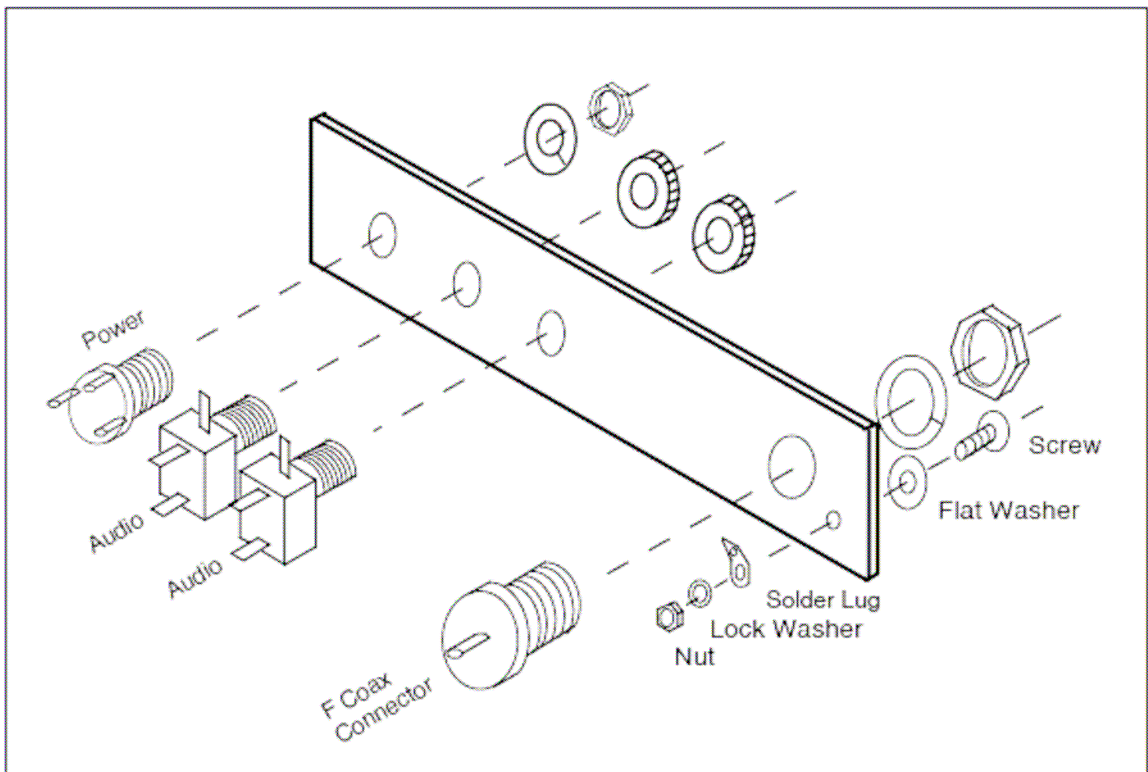
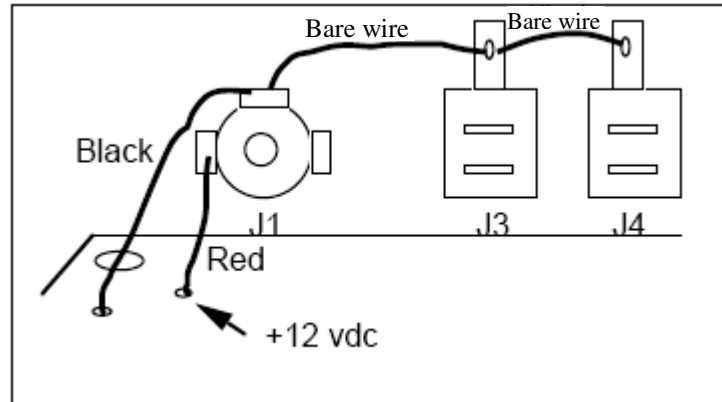

Figure 9. Rear panel assembly
Figure 13. Rear panel power jack (J1) wiring detail
7. q Mount the power connector, two audio jacks, the antenna connector, and a solder lug to the rear panel (Figure 9). All connectors are passed through the panel from the “inside” with washers and nuts located on the decal side of the panel. Tighten the nuts firmly with a crescent wrench or pliers, being careful not to slip and cut the decal.
12. q Be sure that the power connector is installed as shown in Figures 9 and 12). Looking at the connector from the PC board side of the back panel there should be one solder lug at 9 o'clock, one at 12 o'clock, and the third lug at the 3 o'clock position. Install a red wire to the power connector (9 o'clock lug) and PC board (Figure 13). Install black wires linking the PC board ground plane to the power connector and the vertical lugs on both J3 and J4 as seen in detail below. This will complete the soldering portion of the receiver kit assembly. Before proceeding, visually inspect the board for any missing components or solder bridges.